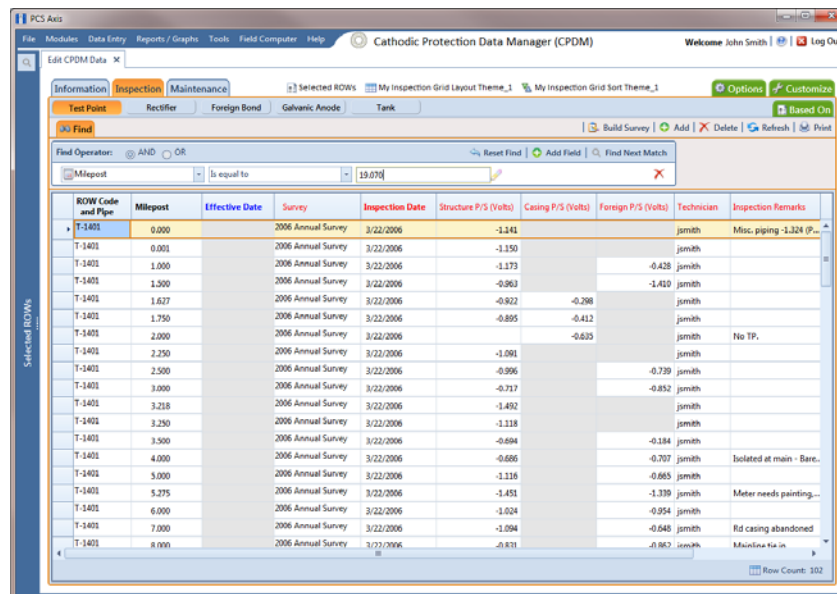

Figure 6-41. Find
- 5 Click the **Find** tab  to open the search properties panel (Figure 6-41, page 206).